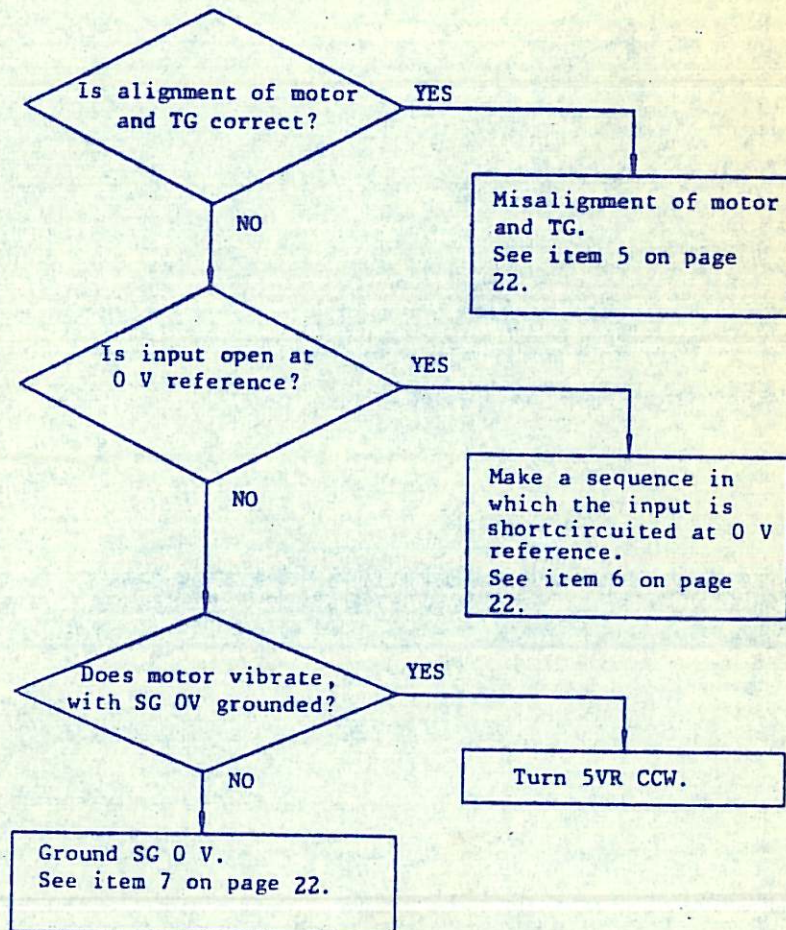

Fig. 16
- 6. The motor vibrates even if the reference input is 0 V. See Fig. 16.